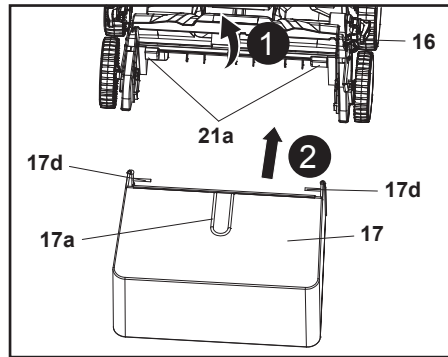

Fig. 6
4. Open the deflector guard (16) and hold it in position (Fig. 6, step 1).
5. Hold the Grass catcher (17) by its carry handle (17a).
6. Align the two hooks (17d) with the supports (21a) and hang the Grass catcher (17) onto it (Fig. 6, step 2).
7. Carefully release the deflector guard (16) afterwards.